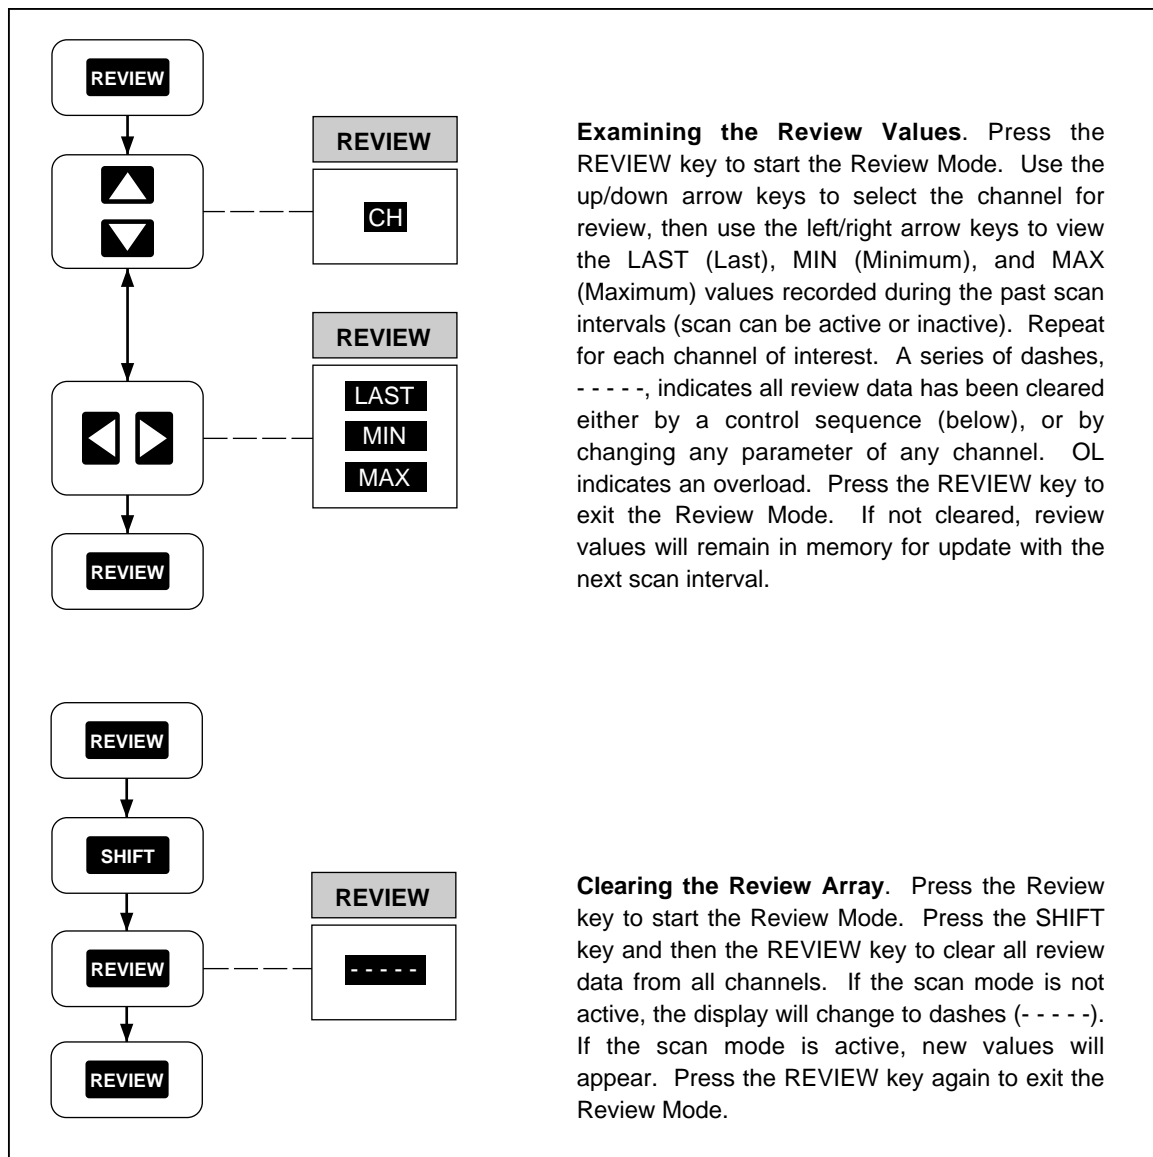

Figure 2-18. Using the Review Mode
- Using the Review Mode (Figure 2-18)
Perform the procedure in Figure 2-15 to start and stop the Scan Mode of operation. The Scan Mode can be started when the instrument is inactive, in Monitor (Figure 2-17), or Review (Figure 2-18). Measurement results can be sent to a memory card (see Chapter 3, "Memory Card Operations") and PC (see Chapter 4, "Computer Operations") or printer (see Chapter 5, "Printer Operations"). When using the Scan Mode with a memory card, consider each of the following topics. (Memory card error messages are summarized in Figure 2-16.)
Perform the procedure in Figure 2-18 to operate the Review Mode of operation. The Review Mode is used any time during or after operation of the Scan Mode. While the instrument is in the Scan Mode, the last, maximum, and minimum measurements for each scanned channel are stored in memory and updated with each scan, forming the Review Array. For example, during scan operations, **REVIEW** can be used to monitor the maximum measurement of a channel in real time. The Review Array is cleared by a control sequence (see Figure 2-18 below), or by changing any parameter of any channel or the measurement rate. The Review Array can be printed out using the **LIST** key (see Figure 5-4). If the instrument is in the Review Mode and scanning using the memory card, any illegal memory card operations is noted only with a double "beep." If a double beep is heard, exit the Review Mode and check the memory card error (see Figure 2-16).